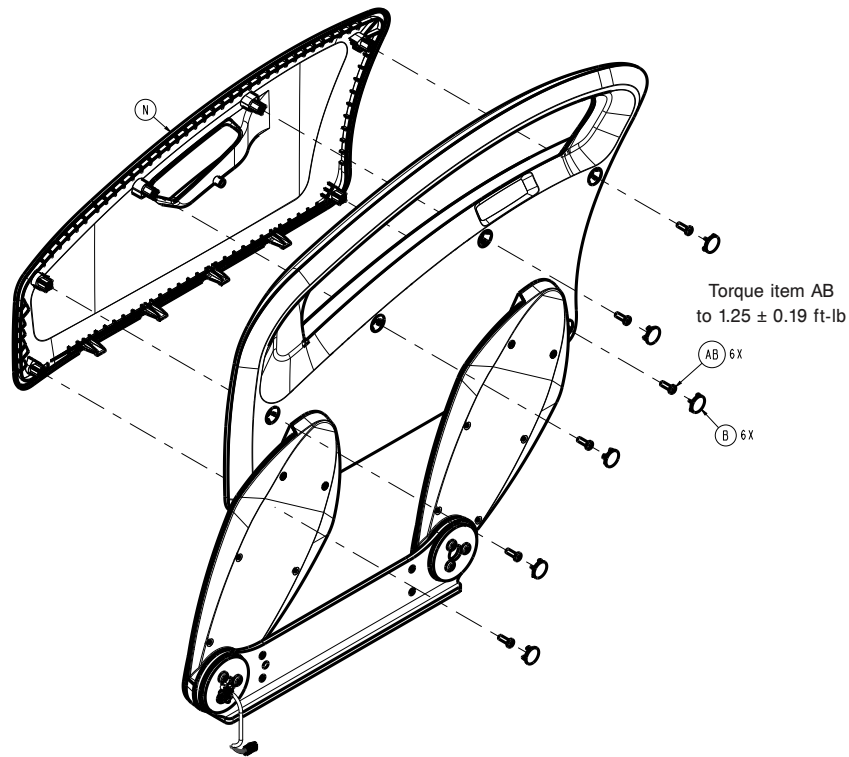

Figure 41 – Replacing the foot siderail hoop
6. Using a pick, remove the six screw covers (B) from the inside of the siderail (Figure 41). Discard the screw covers.
7. Using a T25 Torx driver, remove the six screws (AB) that secure the cover (N) to the siderail assembly (Figure 41). Remove the outer siderail cover.